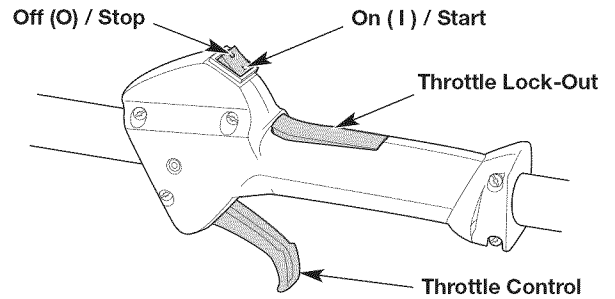
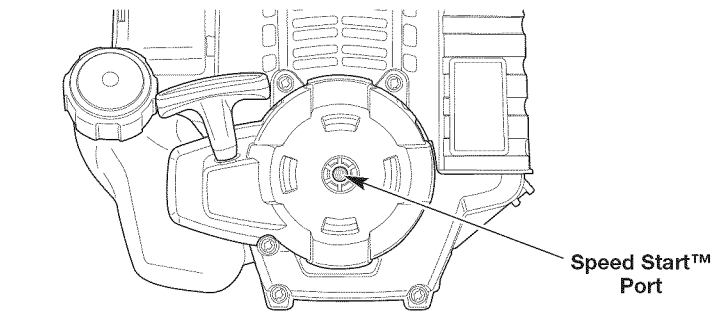

Fig. 9
Fig. 13
NOTE: There is no need to turn the unit on. The On/Off switch is in the ON (I) position at all times (Fig. 9).
6. **DO NOT** squeeze the throttle control (Fig. 9). Pull the starter rope with a controlled and steady motion until the unit starts (Fig. 12).
2. Press and hold the On/Off switch in the OFF (O) position until the engine comes to a complete stop (Fig. 9).
- NOTE:** There is no need to turn the unit on. The On/Off switch is in the ON (I) position at all times (Fig. 9).
6. **DO NOT** squeeze the throttle control (Fig. 9). Insert the Speed Start™ accessory into the Speed Start™ port (Fig. 13). Refer to the *Operation* section of the Speed Start™ accessory operator's manual.